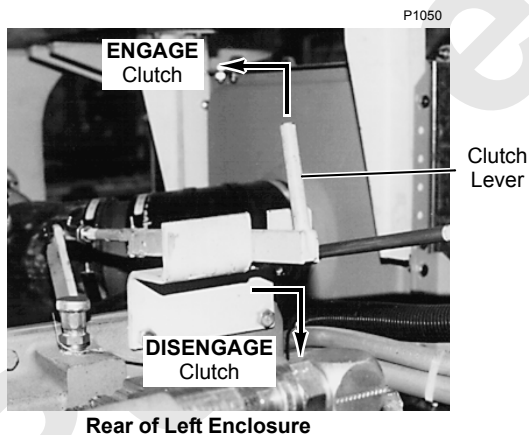

FIGURE 3-11
- If the ambient temperature is below 50°F (10°C), disengage engine clutch, as shown in Figure 3-11. This step will disconnect the pumps from the engine and aid in cold weather start-up.